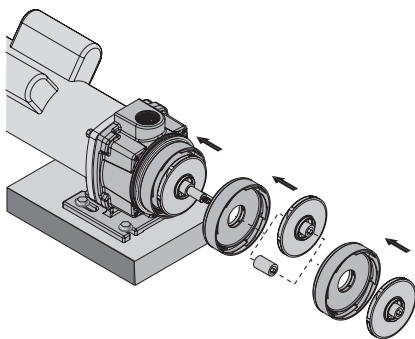
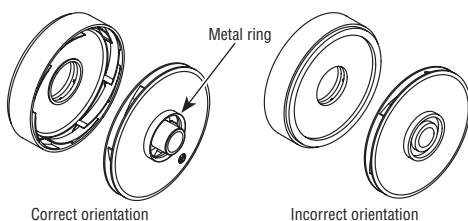

Figure 24
Figure 25
4. Slide a diffuser onto the shaft (open face out) until it seats on the bracket (see Figure 24). Follow the diffuser with an impeller on a four-stage pump or with the stainless steel spacer if a three-stage pump. Engage the molded impeller key in the slot in the shaft. Don’t force it! Be sure that the impeller eye, with metal ring, faces out (forward - see Figure 25).